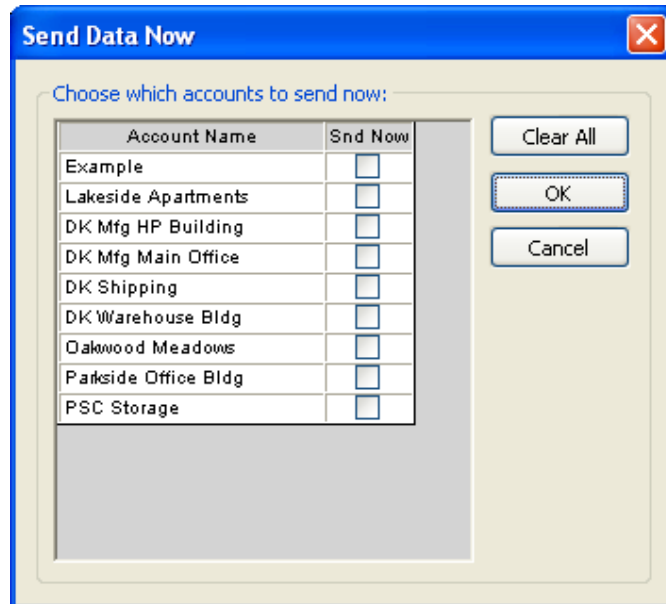

Figure 54
2. Select the account(s) that you are sending data to (Fig 54) by checking the Snd Now box.